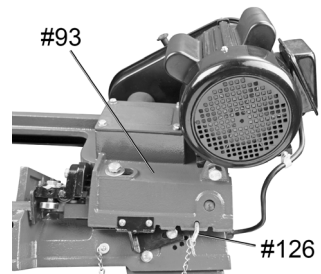

Fig. 24
14. When finished using the tool, clean and lock it in the horizontal position by inserting the Locking Pin into the Body Frame (Fig. 24).
15. When finished using the tool, clean and lock it in the horizontal position by inserting the Locking Pin into the Body Frame (Fig. 24).